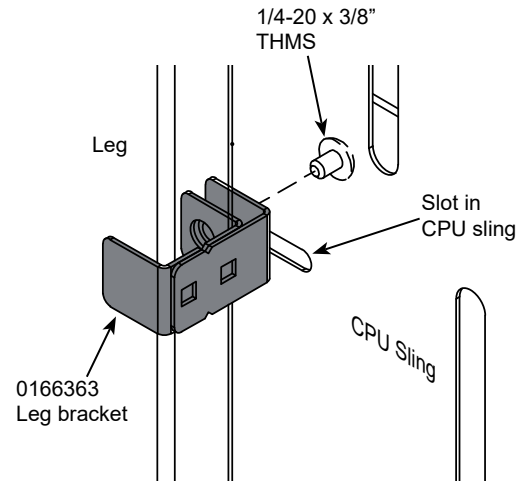

Figure 3.3
2. Line up the bracket with the front slot of the CPU sling as shown and install (1) 1/4-20 x 3/8" THM screw (042025). **Figure 3.3.**